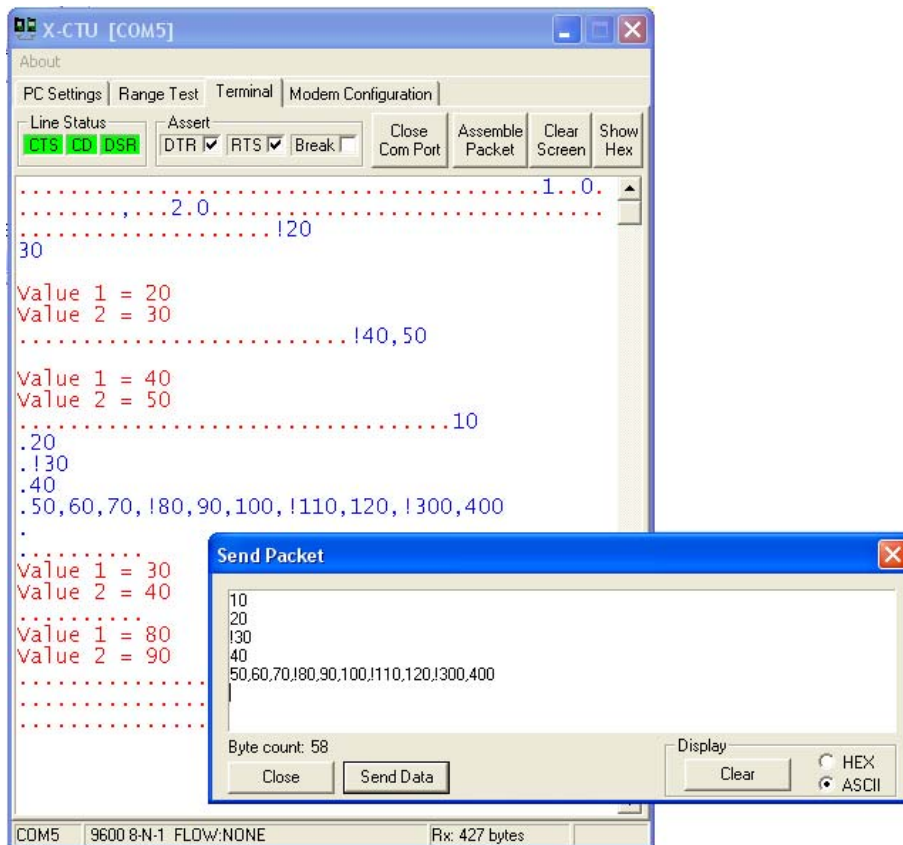

Figure 4-14: Multiple Decimal Receive Testing
- ✓ Use the Send Packet window to build a packet of values and using the ! delimiter. Again, test the use of carriage returns and commas between values as shown in Figure 4-14.